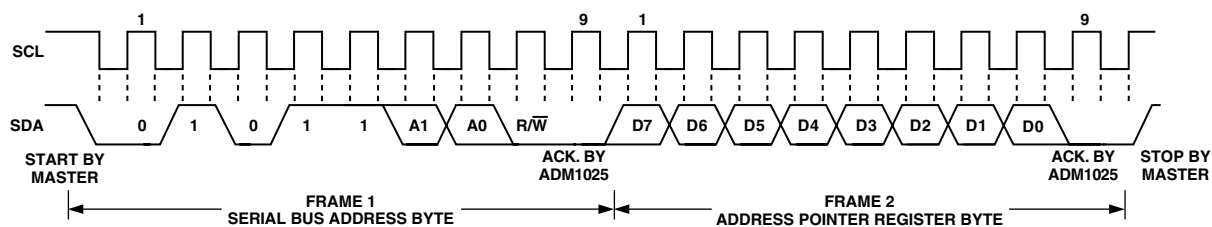

Figure 2b. Writing to the Address Pointer Register Only
1. If the ADM1025/ADM1025A's Address Pointer Register value is unknown or not the desired value, it is first necessary to set it to the correct value before data can be read from the desired data register. This is done by performing a write to the ADM1025/ADM1025A as before, but only the data byte containing the register address is sent, since data should not be written to the register. This is shown in Figure 2b.
2. If the Address Pointer Register is known to be already at the desired address, data can be read from the corresponding data register without first writing to the Address Pointer Register, so Figure 2b can be omitted.